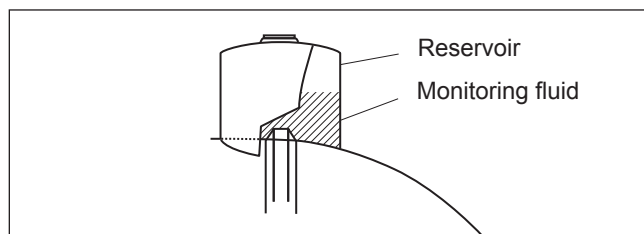

FIGURE 15-1
15.3.3.2. When the tank is delivered and before it is installed, check the monitoring-fluid level and record it on the shipping/receiving paperwork and Tank Installation Checklist. See FIGURE 15-1.